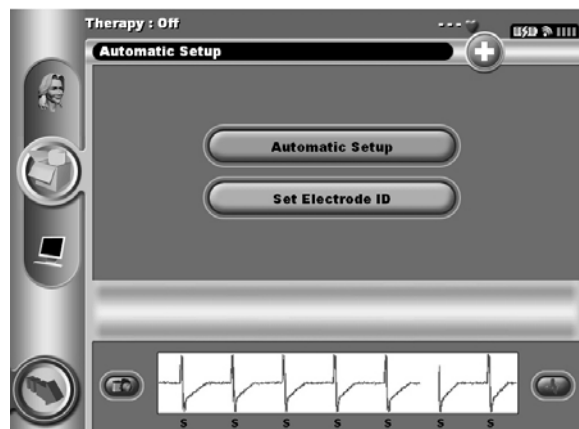

Figure 21: Select the Set Electrode ID button to enter electrode information.
4. Select Set Electrode ID button (Figure 21).